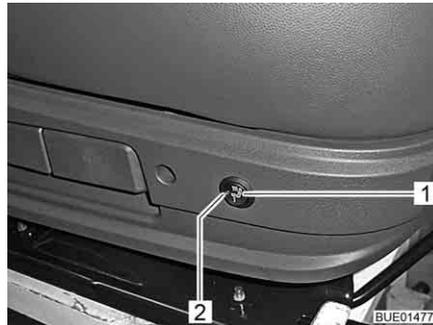

Fig. 27 Switch for seat heater
- Press the switch (Fig. 27,1) at the back on the left side of the seat console.
The LED (Fig. 27,2) comes on when the seat heater is in use.
- Set switch (Fig. 27,1) to the middle position. The LED goes out.